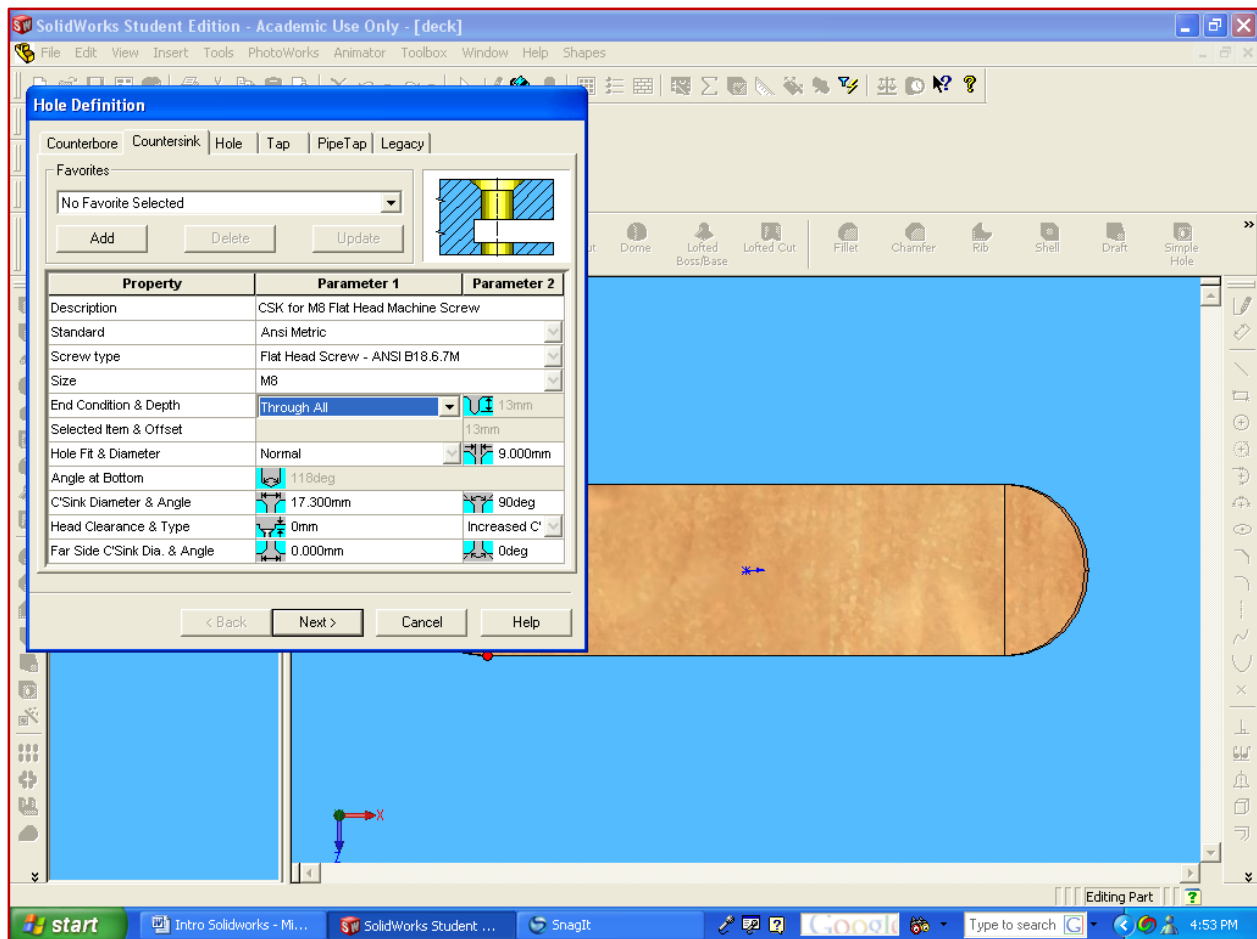

Figure 3.9 – Hole Wizard Dialog Box
- ✓ SolidWorks asks for the location of the hole(s) and the cursor becomes a pencil. Click to mark the approximate location of two parallel holes as shown in Figure 3.9. Only the approximate location is required. Like any SolidWorks sketch, we will define the exact locations and sketch relations after we create the geometry.